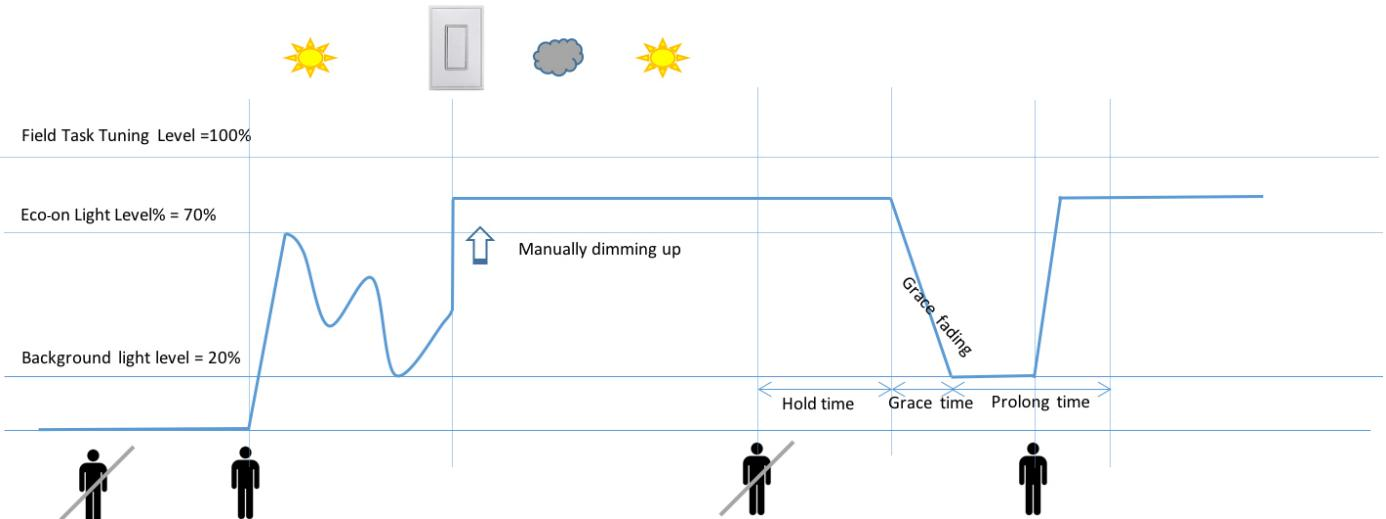
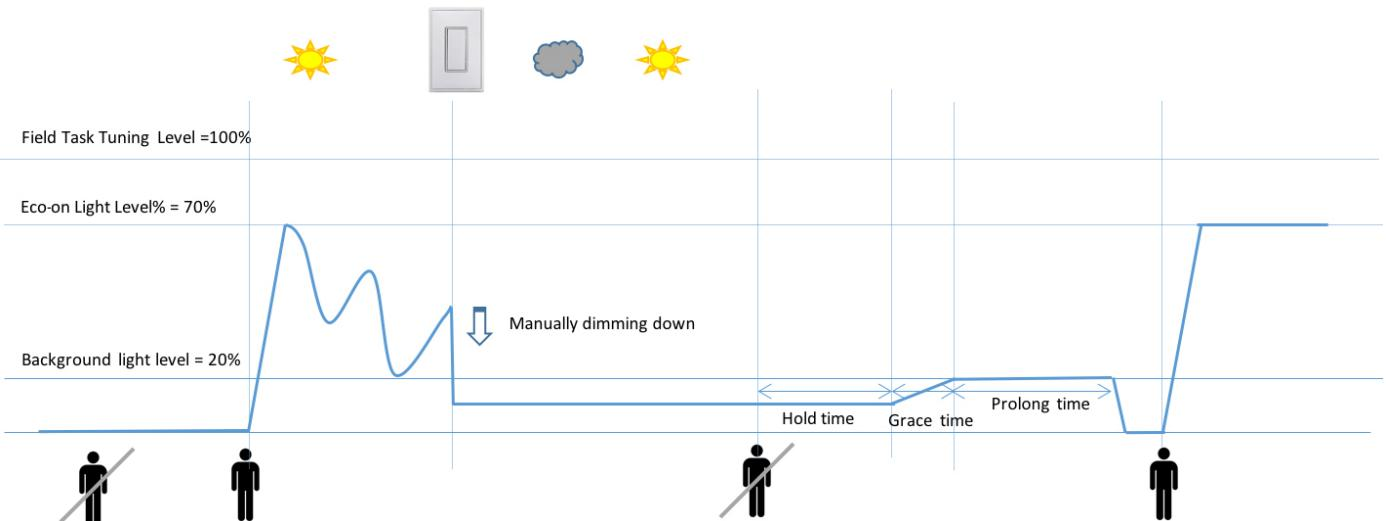

Figure 12. Auto-on/auto-off with manual dimming override.
Figure 13. Auto-on/auto-off with manual dimming override.
- Light level can be set to an intermediate level by manual dimming override using the wireless switch. When a manual dimming override is performed, daylight-based control is disabled, and light will be on constantly at this level. When the room becomes unoccupied, the light goes to the background light level during prolong time, and if the occupant enters the room before prolong time expires (Figure 12), the light will stay at the level set by the manual dimming override. If the prolong time expires, the light will turn off and go to the eco-on level when occupant enters the room (Figure 13).